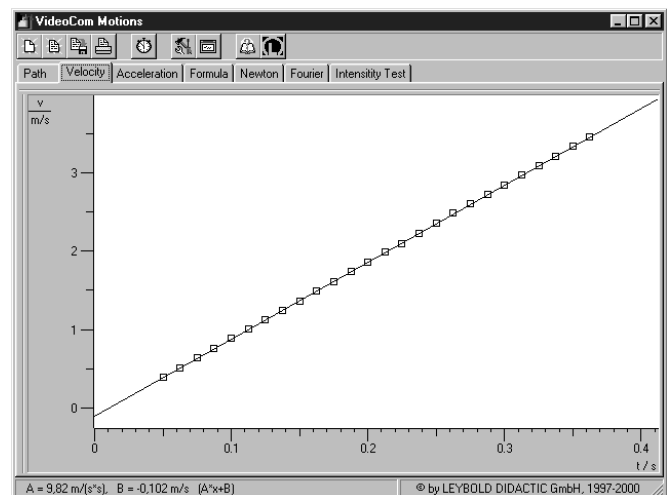
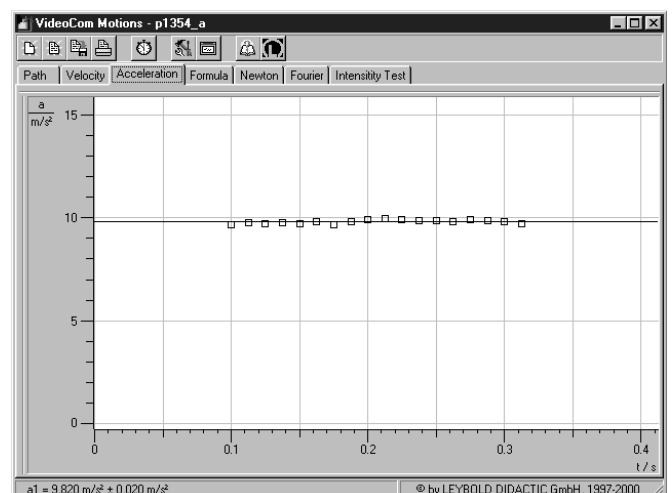

Fig. 4 Velocity-time diagram of the falling body.
Fig. 5 Acceleration-time diagram of the falling body.
The instantaneous velocity  $v$ , which is calculated from the measured values by clicking the register “Velocity”, is a linear function of time (see Fig. 4 and cf. (II)). From the slope of the fitted line  $A \cdot x + B$  the gravitational acceleration is obtained:
If the instantaneous acceleration  $a$  is calculated as a function of time by clicking the register “Acceleration”, constant values are obtained within the accuracy of measurement (see Fig. 5). Their mean value is
The fitting result  $B = -0.1 \text{ m s}^{-1}$  in Fig. 4 and Fig. 5 corresponds to a (physically meaningless) negative initial velocity of the falling body. Actually the recording of the measured values was started somewhat earlier than the motion of the falling body because the holding magnet released the falling body with a slight delay.